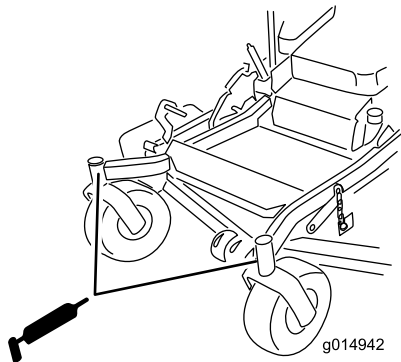

Figure 45
- Install the hex plug and dust cap (Figure 45).
- Grease the caster-wheel bearings (Figure 45).